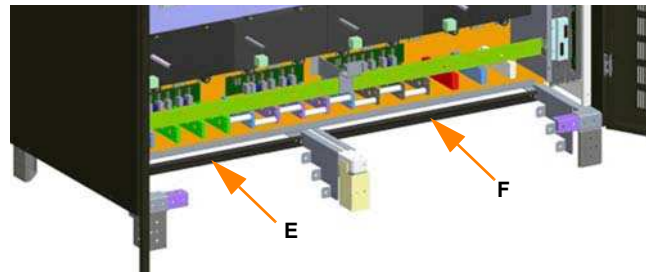

Figure 3.13
5. Fit two cable support bars (E), (F) between the rear-most lugs on profiles (A), (B), (C), (D) as shown in Figure 3.13. Secure each bar using two M5 nuts and bolts tightened to a torque of 6.0 Nm.